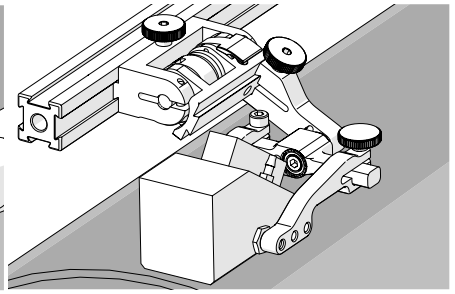

Fig. 156 - Spring loaded scan position
4. Gently lower probe holder and wedge to the scanning surface (Fig. 156).